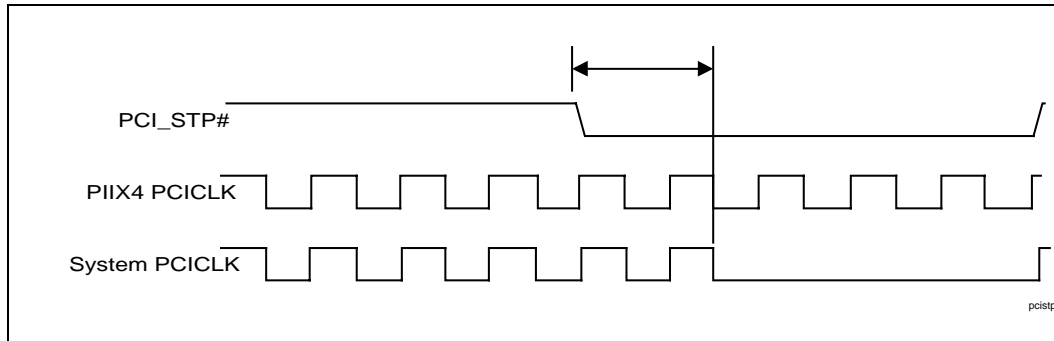
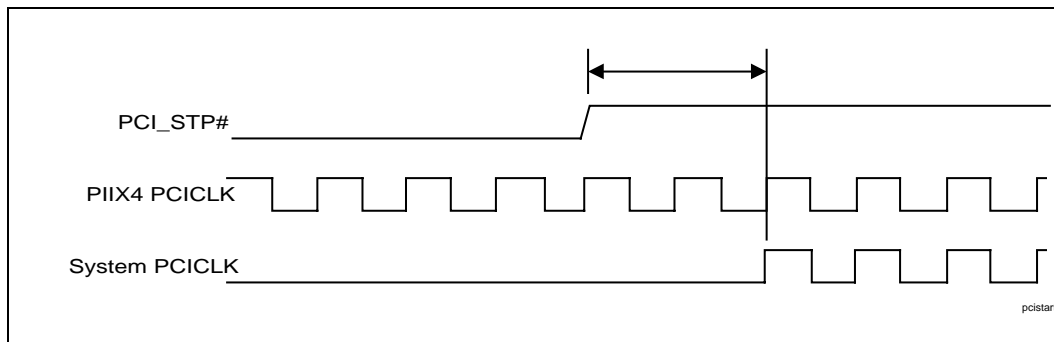

Figure 18. PCI Clock Stop Timing
Figure 19. PCI Clock Start Timing
Figure 18 and Figure 19 show the timing relationship for the control of system PCICLK. The system PCICLK timings must be followed exactly for proper operation of PC/PCI DMA or Serial IRQ logic. If PC/PCI DMA and Serial IRQs are not used in the system, the system PCICLK stop timings must meet the system developer's requirements.
2. See Figure 18 and Figure 19 for exact PCICLK requirements for use with PC/PCI DMA and Serial IRQs.
5. See Figure 18 and Figure 19 for exact PCICLK requirements for use with PC/PCI DMA and Serial IRQs.
3. See Figure 18 and Figure 19 for exact PCICLK requirements for use with PC/PCI DMA and Serial IRQs.